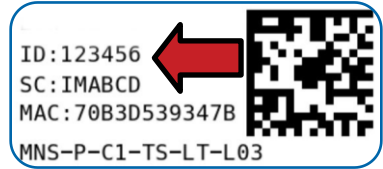

Figure 1
2. Find the device ID. See Figure 1.
Physical Installation: Make a sensor access hole to the desired depth with a 7/8" (22mm) O.D. rod/auger. Fill the bottom of the hole with a thick slurry made of soil removed from the hole and water, then firmly push the sensor down into the mud in the bottom of the hole. This will "grout in" the sensor to ensure maximum surface contact between the sensor surface and the surrounding soil. Alternately, the sensor can be firmly pushed to the bottom of the access hole as long as it is a tight enough fit to ensure adequate contact; a snug fit is absolutely necessary. A length of 1/2" Class 315 PVC (thin wall SDR 13.5) or 3/4" CPVC (SDR 11) pipe will fit snugly over the sensor's collar and can be used to push in the sensor. A good snug fit in the soil is important. This PVC can be solvent welded to the sensor collar with a transition solvent PVC to ABS cement. If the PVC pipe is not left on the sensor (not-recommended), then backfill the hole so the sensor is buried (see Fig. 1). It is important that water doesn't run down the sensor lead and reach the sensing element directly so it is recommended to bury a small horizontal section of the lead (6 to 12" of lead under 3 to 6" of packed soil). If PVC is left on, then compact soil around the surface to seal off the hole (see Fig. 2). The PVC acts as a conduit for the sensor's wires. Be sure to cap off or tape the top of the pipe, so surface water will not infiltrate to the sensor and give a false reading. Drill a small hole at the bottom of the pipe to allow any trapped water to drain away. Label each sensor lead to indicate sensor depth.